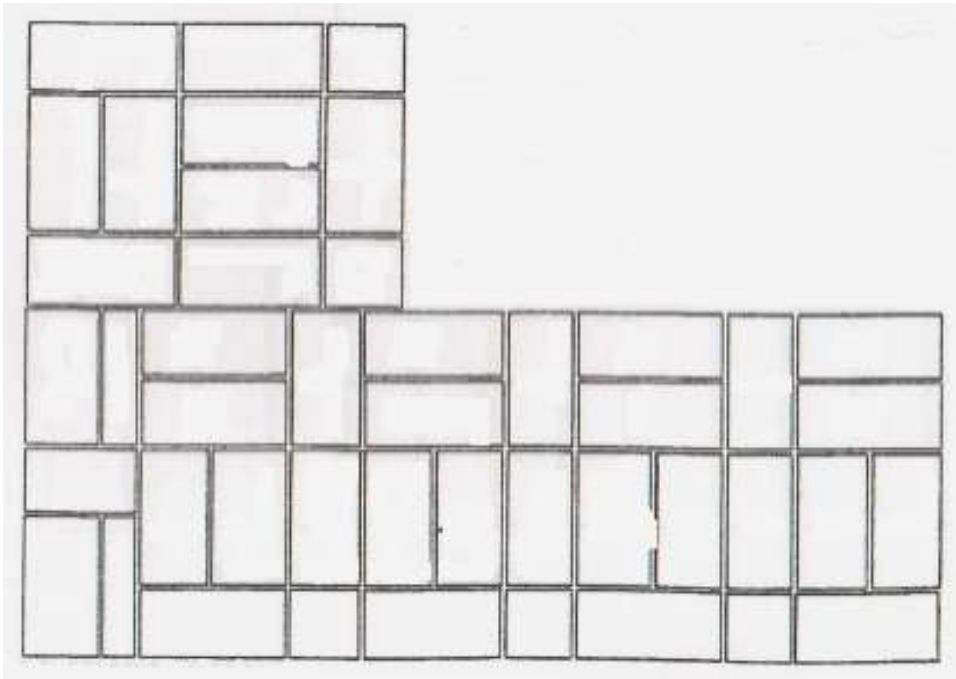

FIGURE 2
2.2 FIGURE 2 (DIAGRAM SHEET 2) shows course 2 of a TWO-AND-A-HALF brick right-angled corner in Flemish bond.